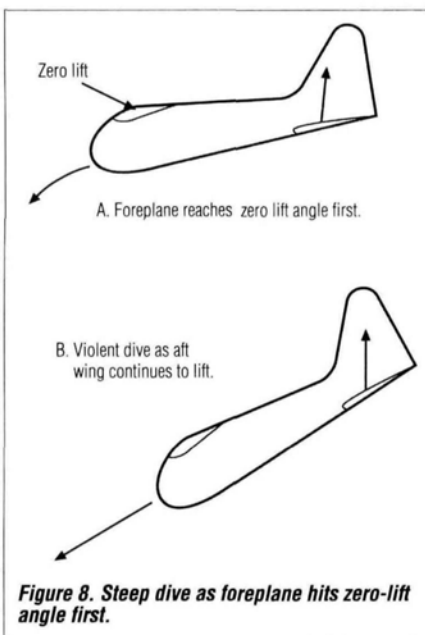

Figure 8. Steep dive as foreplane hits zero-lift angle first.
- The main wing *must* arrive at its angle of zero lift before the foreplane achieves zero lift. If the foreplane ceases to lift while the main wing still lifts, the behavior shown in Figure 8 results.